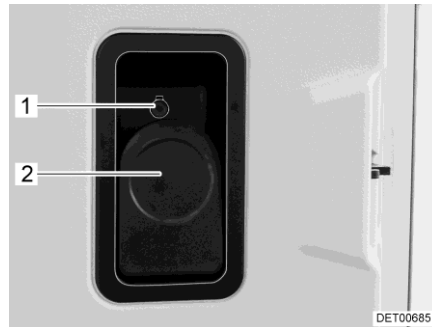

Fig. 29 Door lock (conversion door, inside)
- Opening:* ■ Pull lever (Fig. 29,2).
- Locking:* ■ Push the safety knob (Fig. 29,1) in.